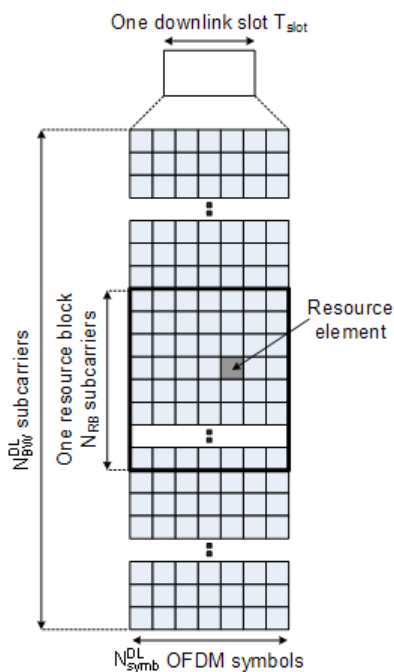

Fig. 1-5: Downlink Resource Grid
figure 1-5 shows the structure of the downlink resource grid for the duration of one downlink slot. The available downlink bandwidth consists of $N_{\text{BW}}^{\text{DL}}$ subcarriers with a spacing of $\Delta f = 15 \text{ kHz}$. In the case of multi-cell MBMS transmission, a subcarrier spacing of $\Delta f = 7.5 \text{ kHz}$ is also possible. $N_{\text{BW}}^{\text{DL}}$ can vary in order to allow for scalable bandwidth operation up to 20 MHz. Initially, the bandwidths for LTE were explicitly defined within layer 1 specifications. Later on a bandwidth agnostic layer 1 was introduced, with $N_{\text{BW}}^{\text{DL}}$ for the different bandwidths to be specified by 3GPP RAN4 to meet performance requirements, e.g. for out-of-band emission requirements and regulatory emission limits.
Data is allocated to the UEs in terms of resource blocks. A physical resource block consists of 12 (24) consecutive subcarriers in the frequency domain for the $\Delta f=15$ kHz ($\Delta f=7.5$ kHz) case. In the time domain, a physical resource block consists of $N_{\text{sym}b}^{DL}$ consecutive OFDM symbols, see figure 1-5. $N_{\text{sym}b}^{DL}$ is equal to the number of OFDM symbols in a slot. The resource block size is the same for all bandwidths, therefore the number of available physical resource blocks depends on the bandwidth. Depending on the required data rate, each UE can be assigned one or more resource blocks in each transmission time interval of 1 ms. The scheduling decision is done in the base station (eNodeB). The user data is carried on the physical downlink shared channel (PDSCH). Downlink control signaling on the physical downlink control channel (PDCCH) is used to convey the scheduling decisions to individual UEs. The PDCCH is located in the first OFDM symbols of a slot.